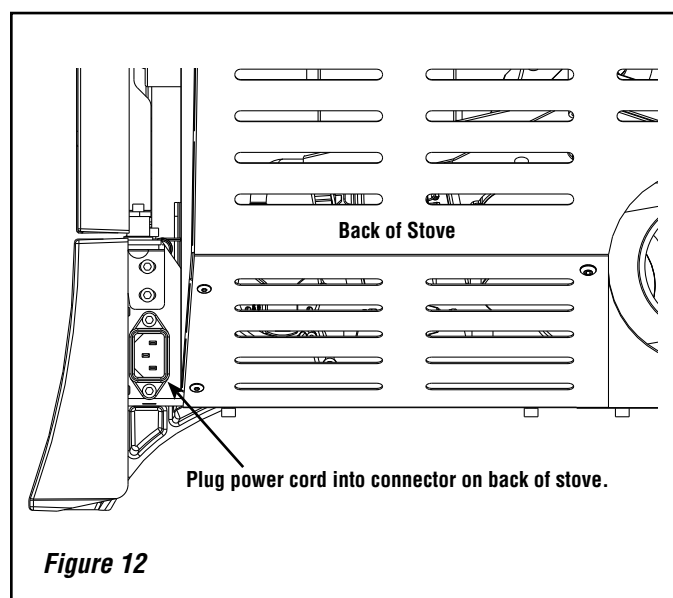

Figure 12
- ☐ Plug power cord connector into corresponding connector on the back of appliance (see **Figure 12** showing connector location).